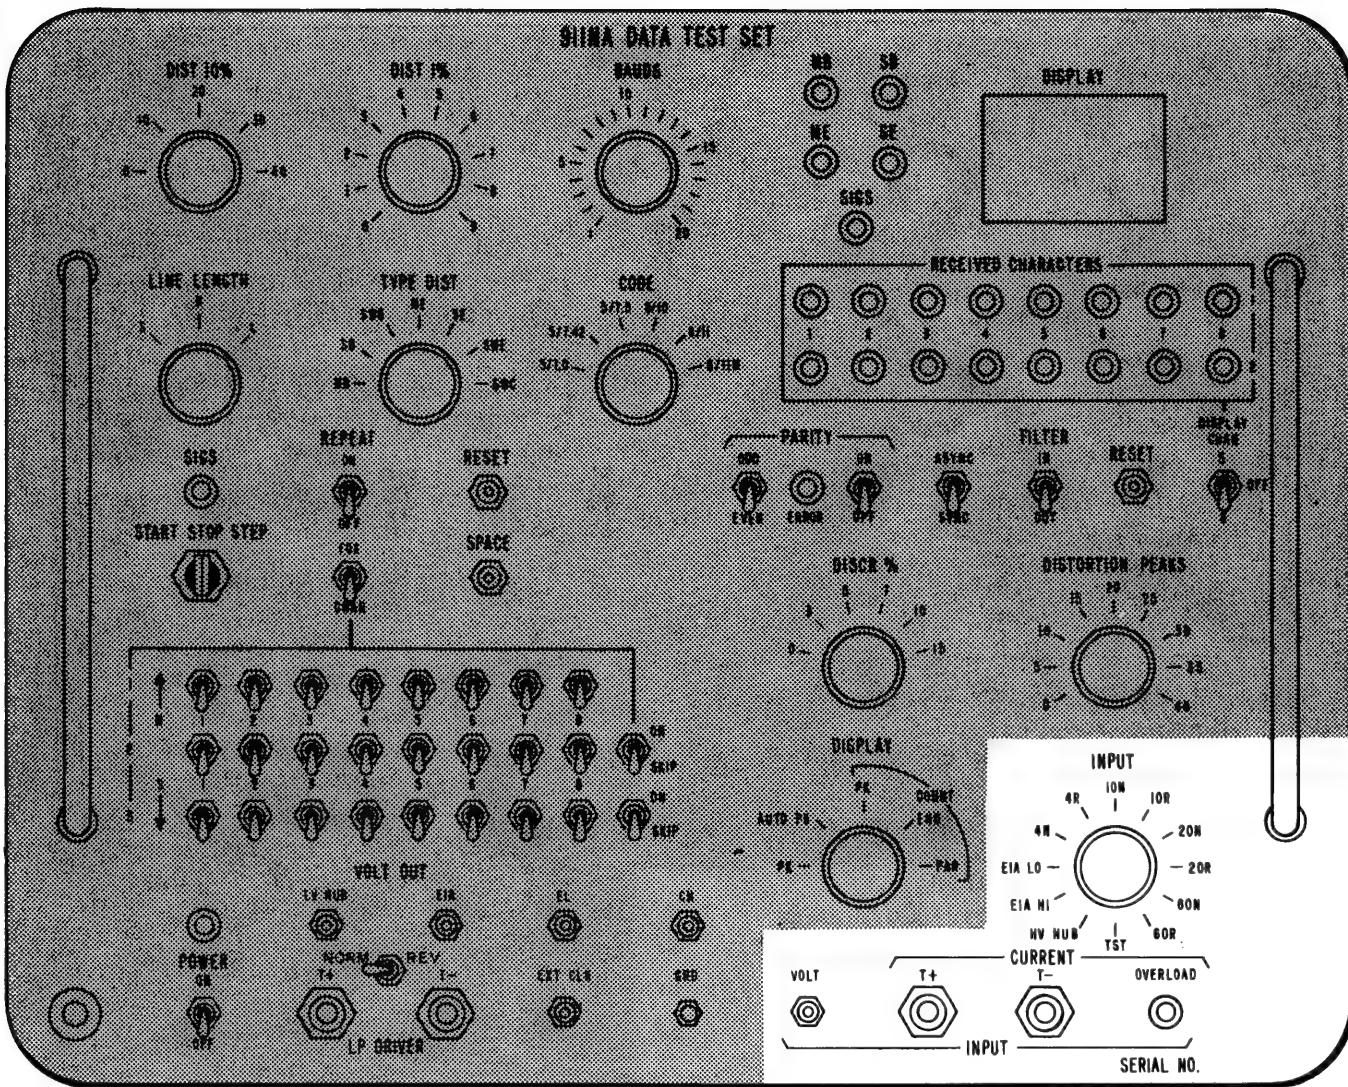

Fig. 15—Location of DMS Inputs
3.30 The input area of the DMS is shown in Fig. 15. All voltage inputs are connected to the VOLT jack with the INPUT switch set to the proper position [EIA LO (normal EIA signals), EIA HI (provides a high impedance input for bridging on circuits without signal interference), HV HUB (No. 2 hub)] as required. Neutral current signals of 4, 10, 20, or 60 milliamperes, either normal or reversed, are connected via the T+ (positive on tip) or T- (negative on tip) input jacks. The INPUT switch must be set to the proper position as required. Input protection for the current inputs provides a short circuit and lights